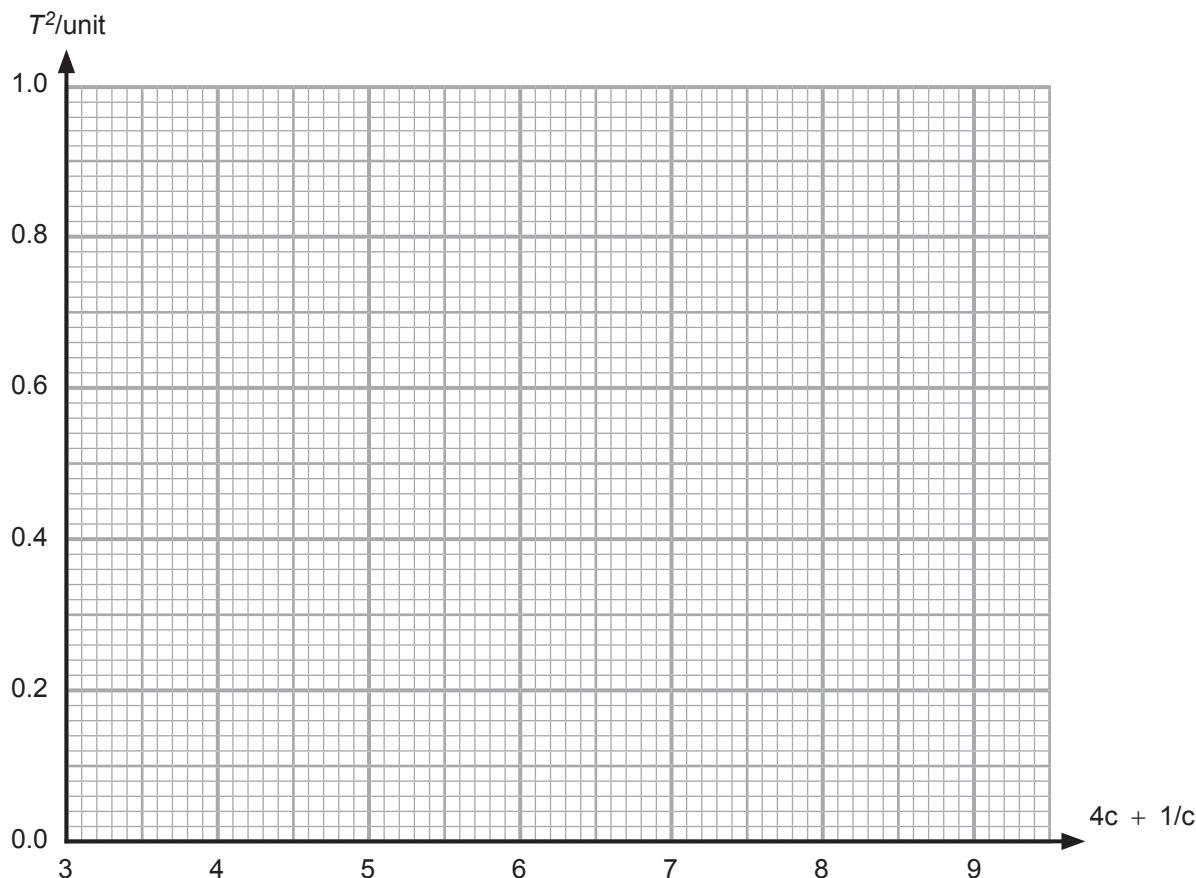

Fig. 2.3
- (ii) Plot the points and draw the best-fit straight line on Fig. 2.3. [2]
Use this information and the graph drawn in **Fig. 2.3** to determine a value for the acceleration of free fall,  $g$ .